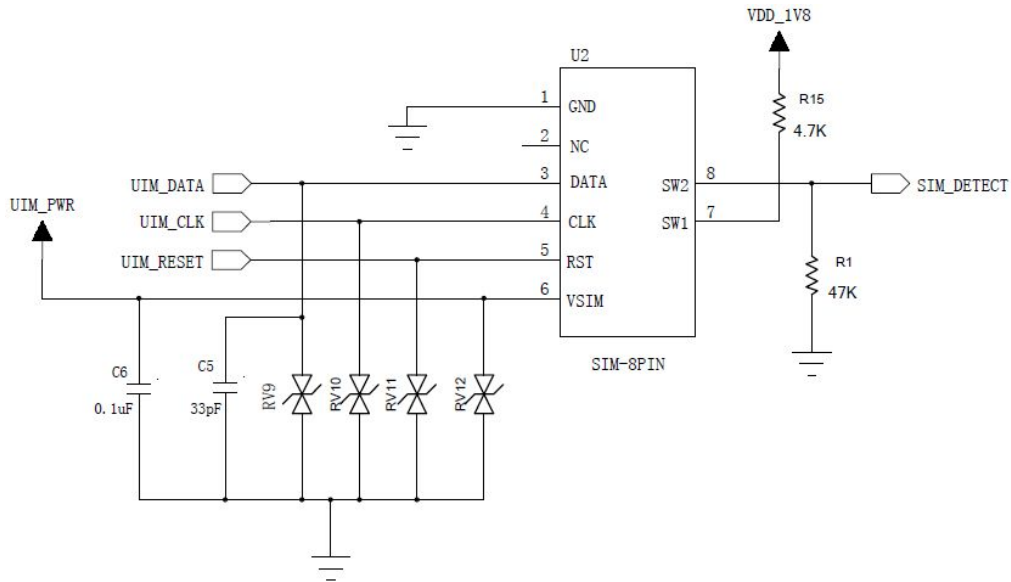

Figure 5-8 Normally Open SIM Connector Reference Design
2) For normally open SIM connector circuit, as shown in Figure 5-8. SIM_DETECT connects Pin8 (SW2) of U2, and it also be pulled low by 47K ohms resistor. Pin 7 is pulled high by 4.7K ohms resistor. When no SIM card, SW2 and SW1 disconnect, SW2 is low. After SIM inserted, SW2 and SW1 short, SIM_DETECT is pulled high.